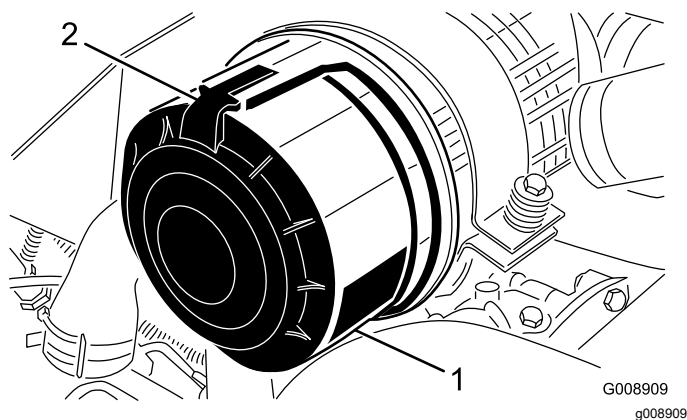

Figure 90
1. Release the latches securing the air-cleaner cover to the air-cleaner body (Figure 90).